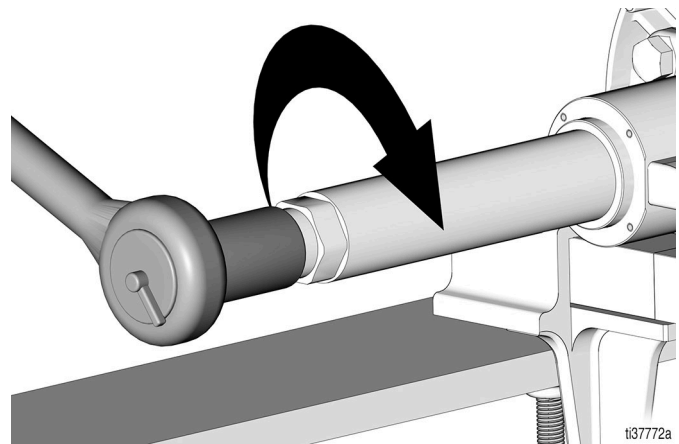

FIG. 31
16. Using a 1-7/16 in. socket, tighten the seal retainer (6) to the pump cylinder (2) assembly (torque 100 - 110 ft-lb/135.6 - 149.1 N•m) (FIG. 31).